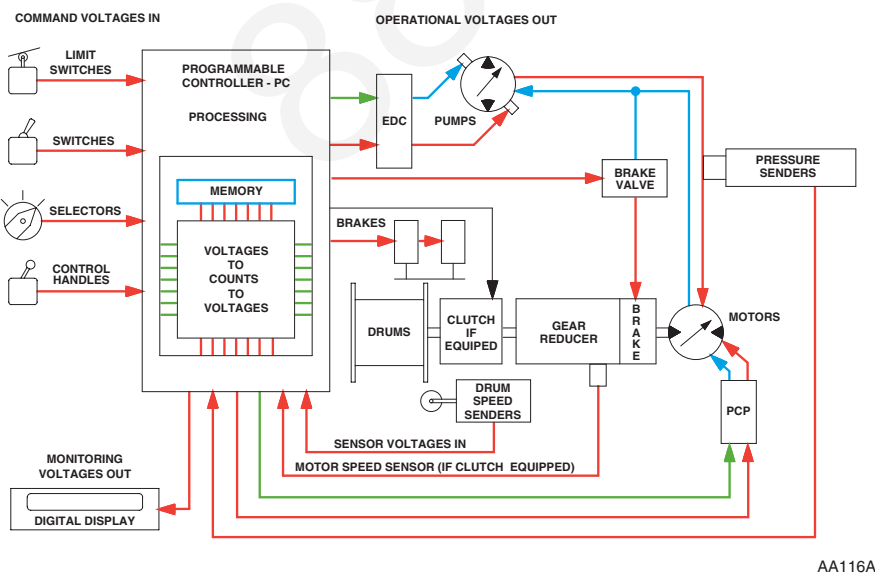

FIGURE 8 SYSTEMS CONTROL DIAGRAM
EPIC Programmable Controller (PC) (Figure 8)
- Pressure senders measure system pressures and supply the PC with equivalent voltages. The pressures are memorized in the form of binary "counts" at crucial points during operation. See Figure 8 for a detailed system diagram.